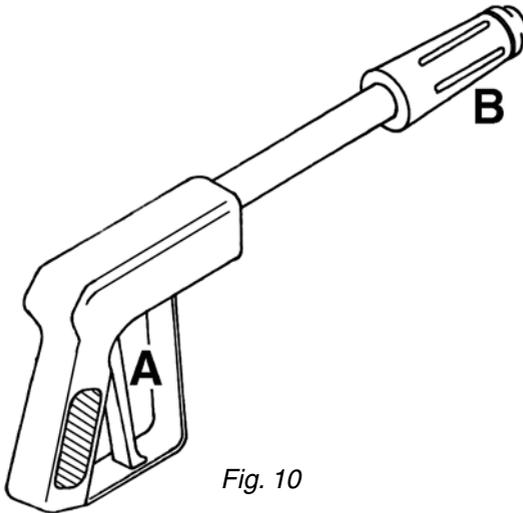

Fig. 10
7. Then depress the red handle **A** (Fig. 10) to spray fluid from the spraygun. Check the pressure on the manifold pressure gauge **2** (Fig. 9) and follow step **6** to adjust.
8. To adjust the spray pattern, turn the black handle **B** (Fig. 10) OUT for a narrow spray pattern for long distances and IN for a wide pattern for more coverage at close distances.